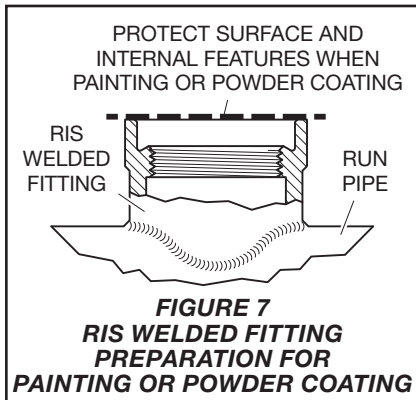

FIGURE 7
- Before painting or powder coating, mask the RIS welded fitting lip and internal features as shown in Figure 7. For example, use a 1-7/8 in. (4,76 mm) high temperature polyester masking disc or a high temperature 2 in. (5,08 mm) ceramic magnet as masking materials.